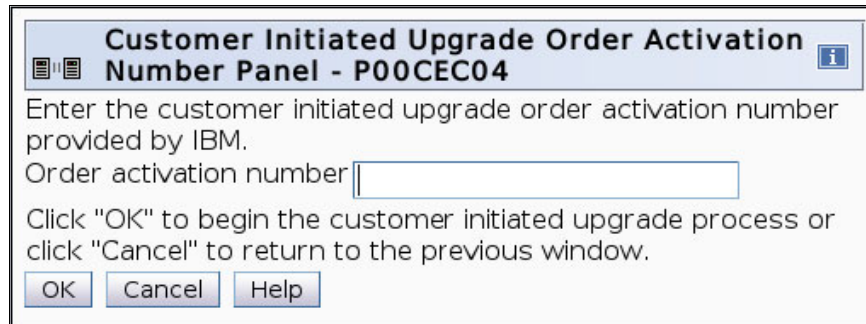

Figure 8-11 Customer Initiated Upgrade Order Activation Number window
2. The window provides several possible options. If you select the **Retrieve and apply** option, you are prompted to enter the order activation number to start the permanent upgrade, as shown in Figure 8-11.